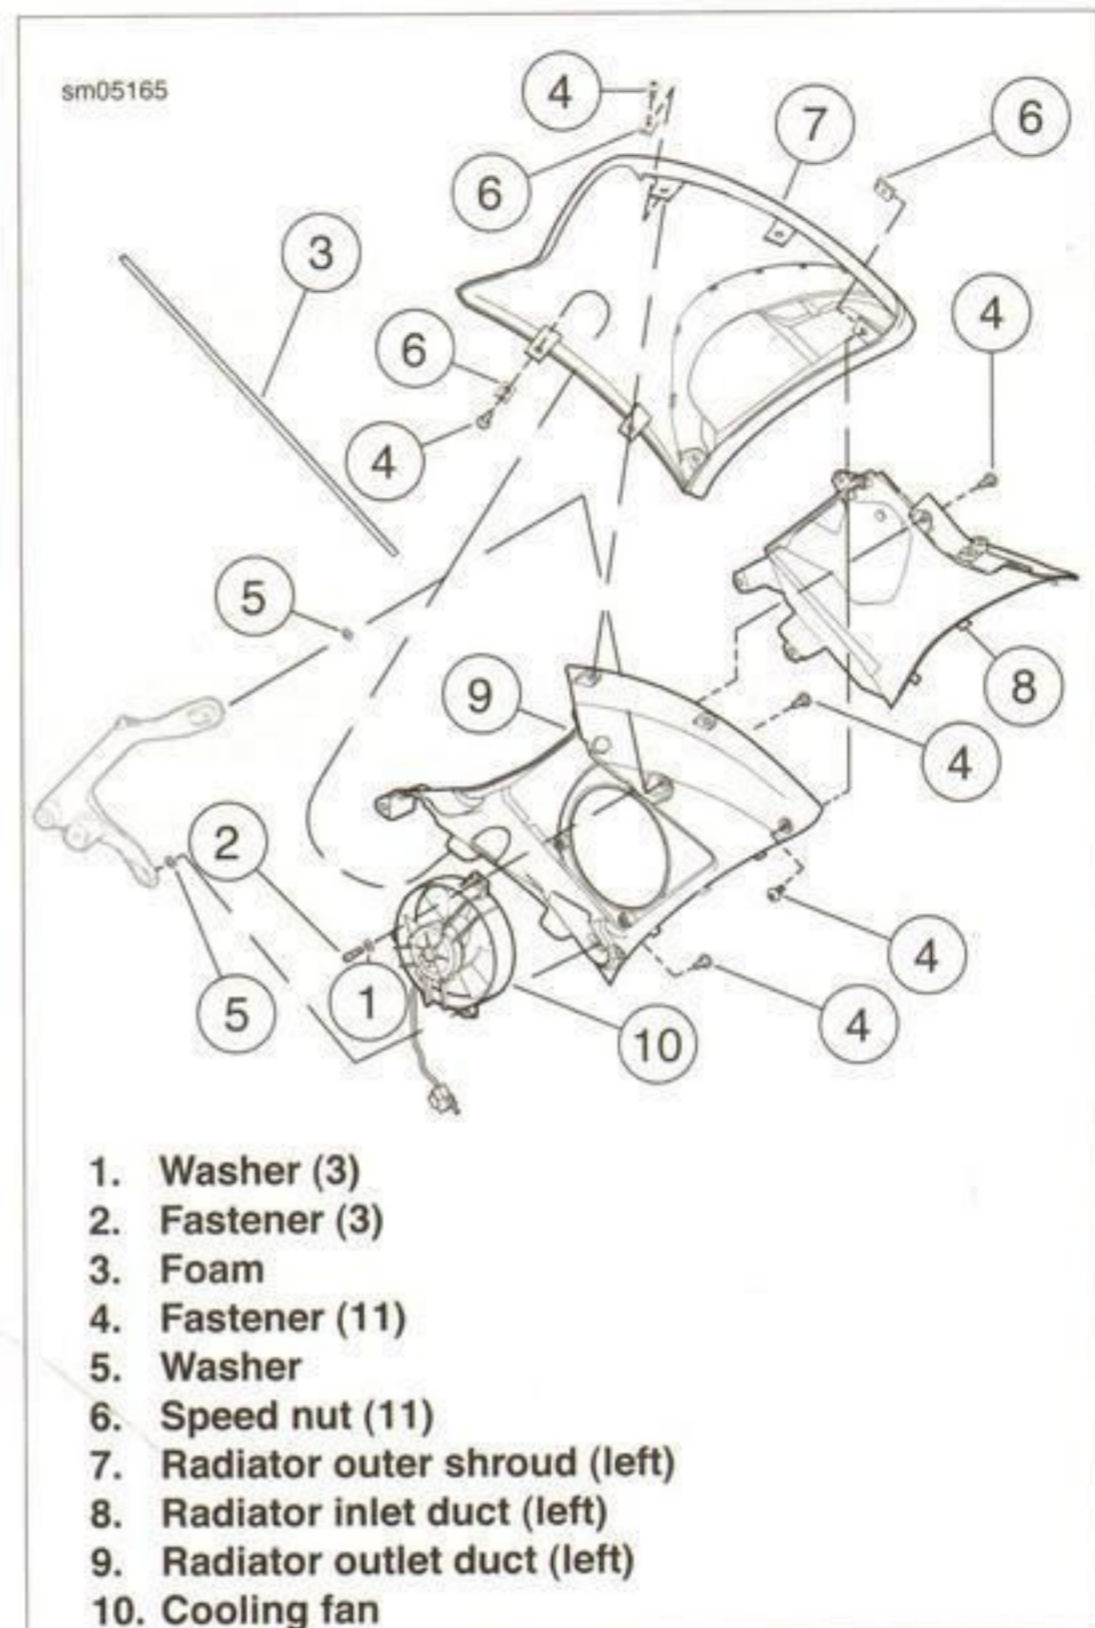

Figure 7-127. Left Side Cooling Fan Components
3. See Figure 7-127. Remove six fasteners (4) from left radiator outer shroud (7) and remove shroud from motorcycle. Leave speed nuts (6) in place on outer shroud.